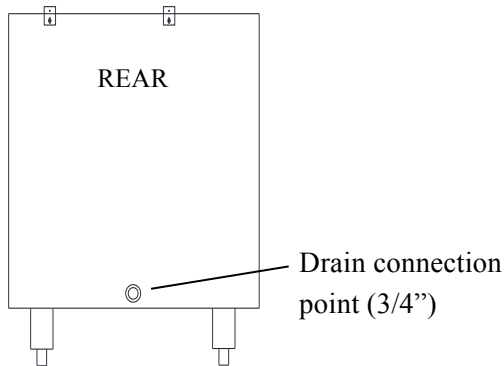

Fig.3
1. Connect drain line tubing to drain connection point at back of unit (Fig.3).